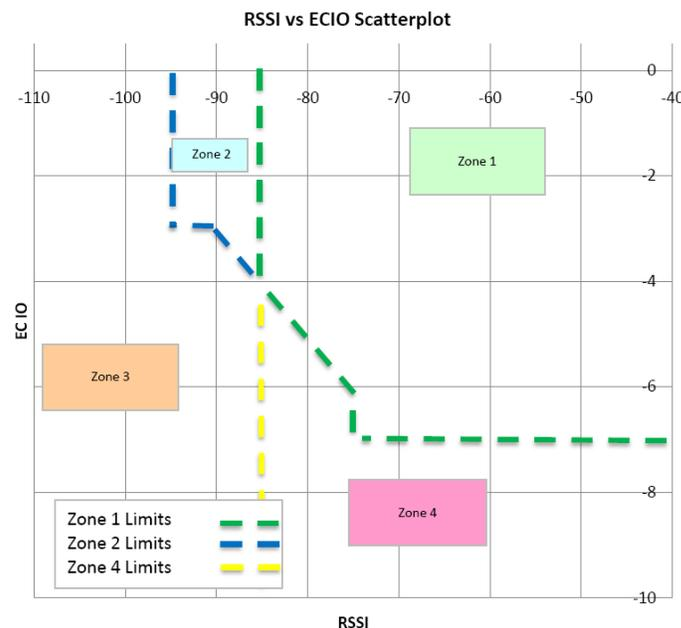

Figure 2-1. Signal Strength (RSSI) versus noise (EC/Io) Plotting
7. Find a sufficiently acceptable point within the store which plots in zone 1 of Figure 2-1 (again, the values plotted are +5 and +1 offset from what “raw” display reads because the measurement is being taken without benefit of antenna improvement). This defines the deployment point.
- Follow the allowable RSSI and EC/Io signal level installation zones in Figure 2-1, “Signal Strength (RSSI) versus noise (EC/Io) Plotting,” on page 2-2 graph. To view the WR11’s detailed signal levels see the section “Troubleshooting the Digi WR11 Router” on page 8-2.